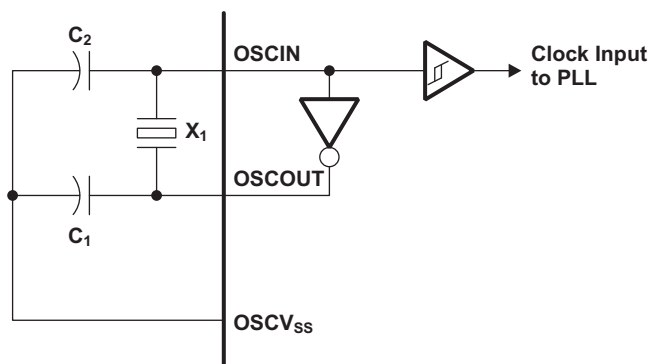
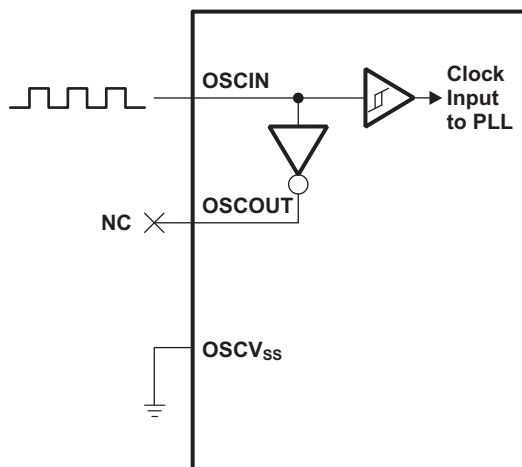

**Figure 6-6. On-Chip 1.2V Oscillator**
Figure 6-7. External 1.2V Clock Source
The OMAP-L137 device includes two choices to provide an external clock input, which is fed to the on-chip PLL to generate high-frequency system clocks. These options are illustrated in Figure 6-6 and Figure 6-7. For input clock frequencies between 12 and 20 MHz, a crystal with 80 ohm max ESR is recommended. For input clock frequencies between 20 and 30 MHz, a crystal with 60 ohm max ESR is recommended. Typical load capacitance values are 10-20 pF, where the load capacitance is the series combination of C1 and C2.
- Figure 6-6 illustrates the option that uses on-chip 1.2V oscillator with external crystal circuit.
- Figure 6-7 illustrates the option that uses an external 1.2V clock input.